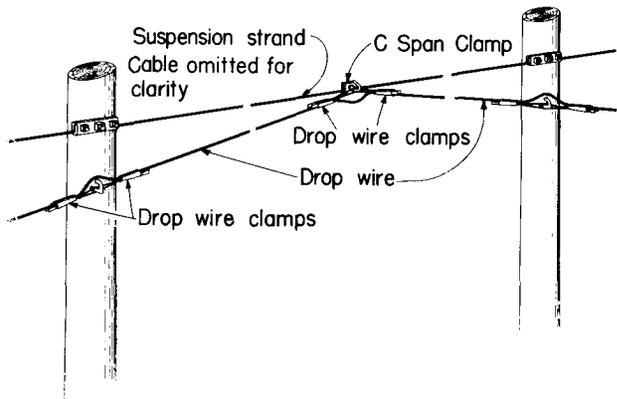

Fig. 5 – Drop Wire on Intermediate Strand Pickup
3.04 Where required ground clearances in one span can not be obtained with wire strung at a minimum sag, then one or more intermediate strand pickups can be used to reduce wire sag as illustrated in Fig. 5.